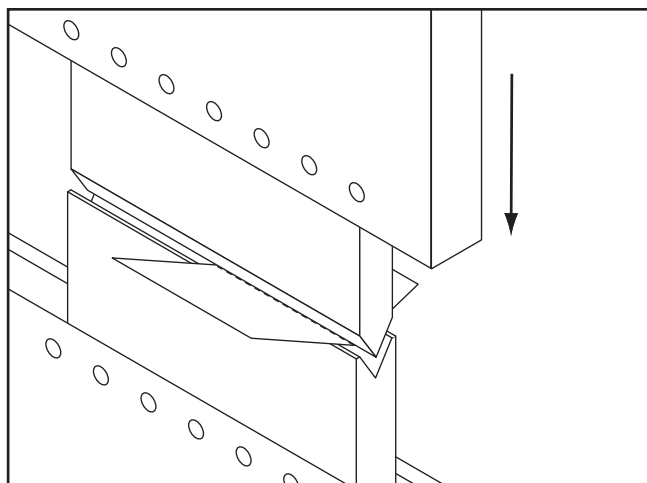

Figure 6. Creating the bend.
3. Pull the handle down until the desired bend is created (**Figure 6**).